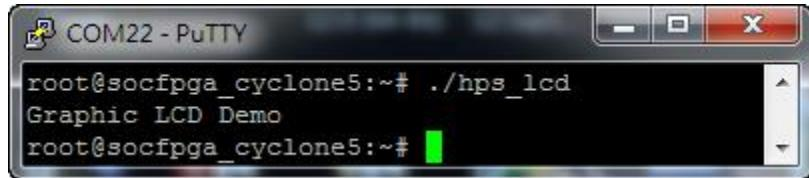

Figure 6-13 Launch LCD Demonstration
- In the UART terminal of PuTTY, type "./hps_lcd" to start the LCD demo, as shown in Figure 6-13.